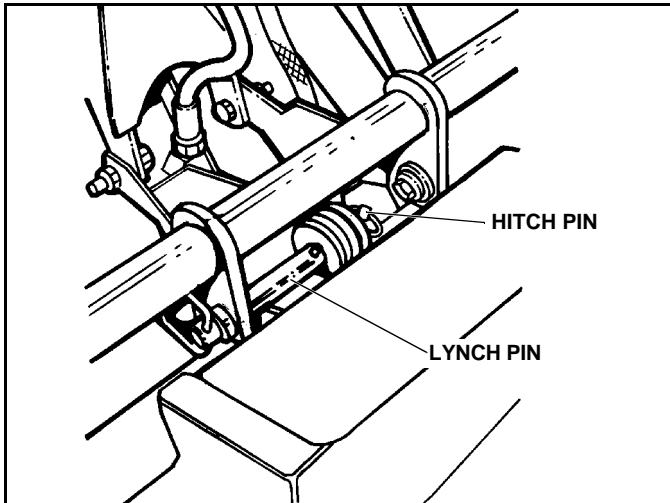

Figure 1-5
6. Remove Lynch Pin from center Pivot Hitch Pin and pull upward on bell crank-lift bar assembly until Pivot Hitch Pin can be easily removed. See Figure 1-5.